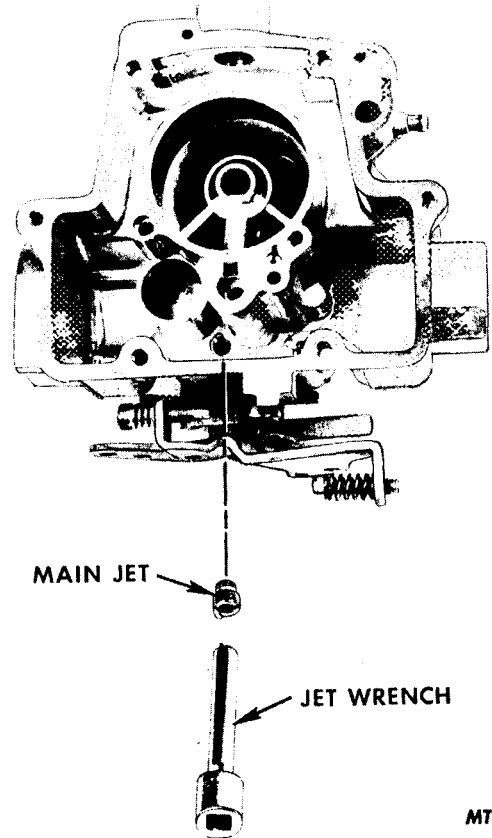

FIG. 22 Remove or Install Main Jet
- Remove the main jet with a jet wrench. A 3/8" wide square point screwdriver may be used (Fig. 22).